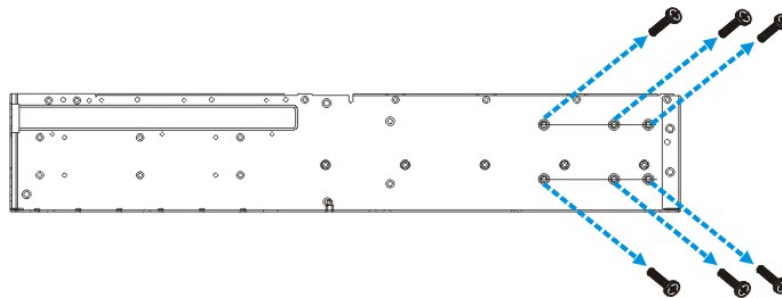

Figure 2-1: Enclosure Side Mounting Holes (1)
- Integrators may design their own brackets or slide rails using the twenty-two (22) mounting holes on the sides of chassis.
- There are six (6) mounting holes with six (6) M4 nuts near the end of the chassis on each side. Shown below are the locations of these mounting holes. (See the arrow marks in *Figure 2-1*). See the next diagram for another group of mounting holes on a horizontal line.